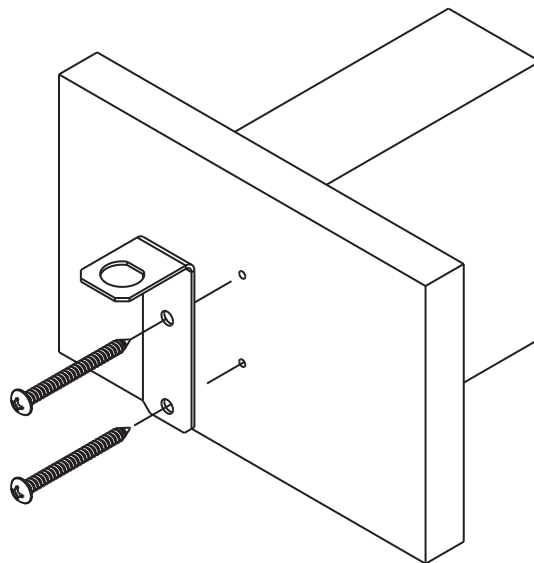

Fig. 7
- 4 Secure the antenna extension bracket (A) to the structure using two (2) wood screws (B) (Fig. 7).